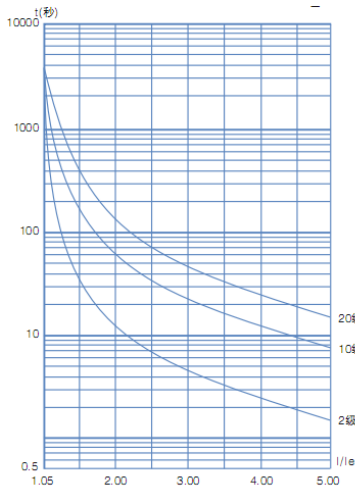

Figure 6- 1
6-1-6.Running overload protection time: to set the P6 load regulation rate as the benchmark for anti time thermal protection, protective tripping time curve as shown in Figure 6- 1.
(2)The three protection level of light load, standard load and overload have the complete protection function. The difference is the time curves of motor overloaded thermal protection are not the same. The time parameters of motor thermal protection are as Table 6.1 and Figure 6- 1.